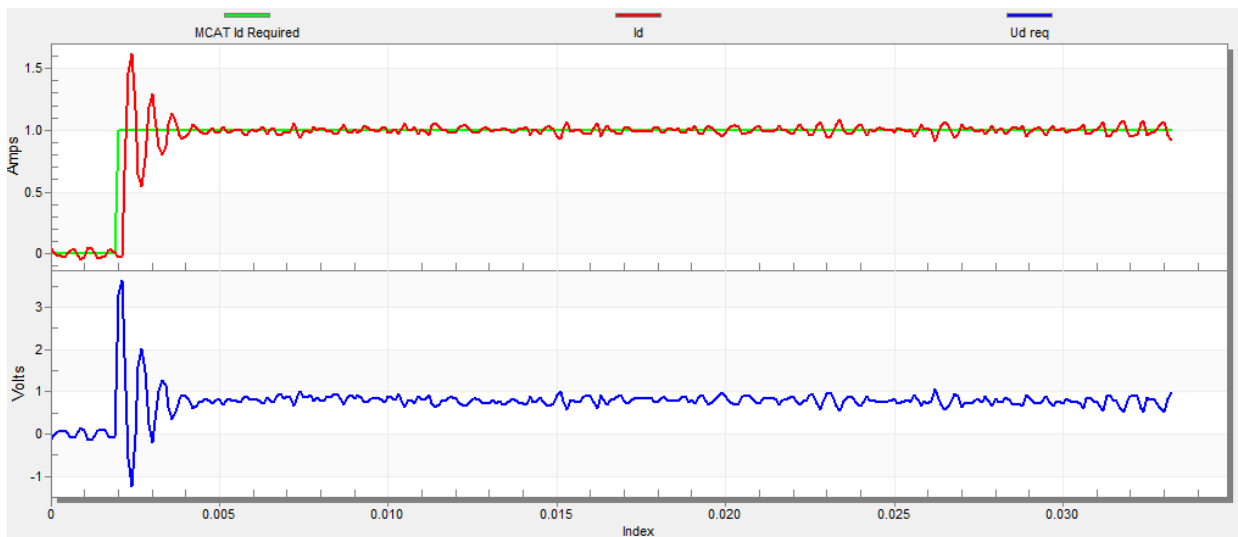

Figure 52. Fast step response of the Id current controller
- The loop bandwidth is high (700 Hz) and the response time of the Id current is very fast, but with oscillation and overshoot (see Figure 52).